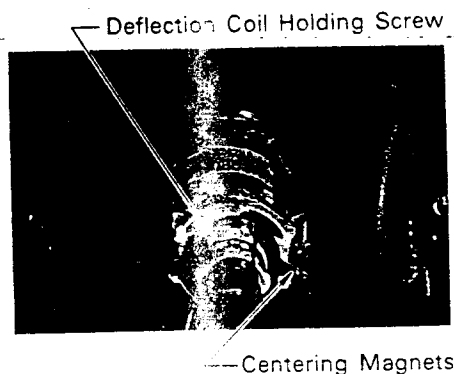

Fig. 4
- Loosen the deflection coil holding screw. (Fig. 4)
- Adjust the centering magnets (see Fig. 4) until the raster comes to the center of monitor screen.